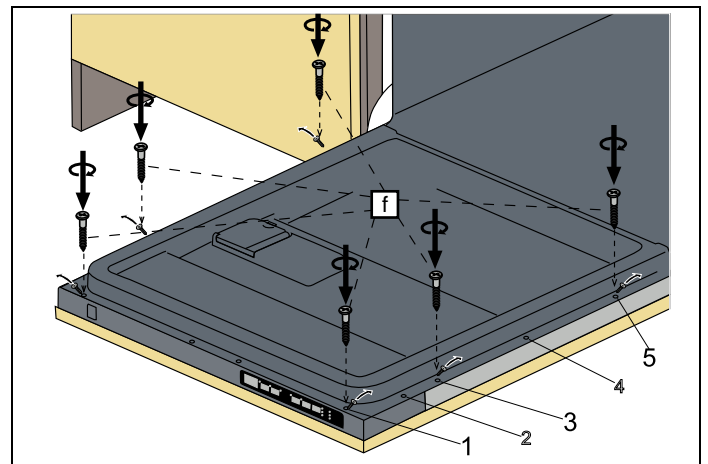

Fig. 27
6) The screws located on the wooden door are fitted to the dishwasher at the discharges located on the door outer sheet and are assembled as shown in Fig. 27 .
7) As shown in Fig. 27 , Screws $\text{Ø}5/32'' \times 53/32''$ ($\text{Ø}4\text{mm} \times 42.5\text{mm}$) are installed in positions I, III and V.